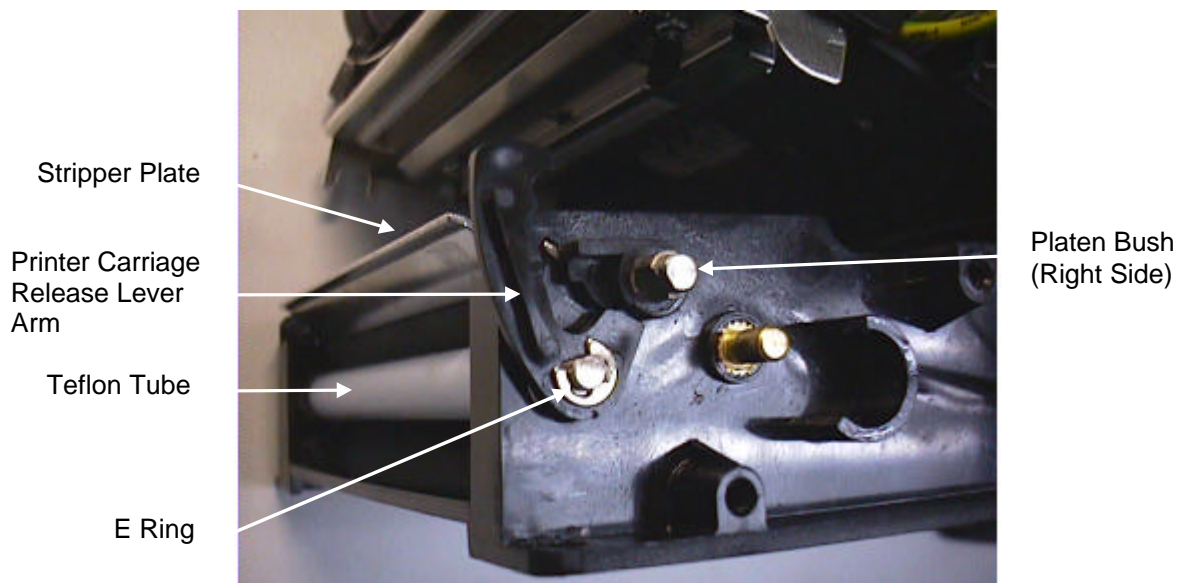

Fig. 4.17 Printer carriage release lever arm and E ring
18. Remove the E ring and the printer carriage release lever arm. (Fig. 4.17)